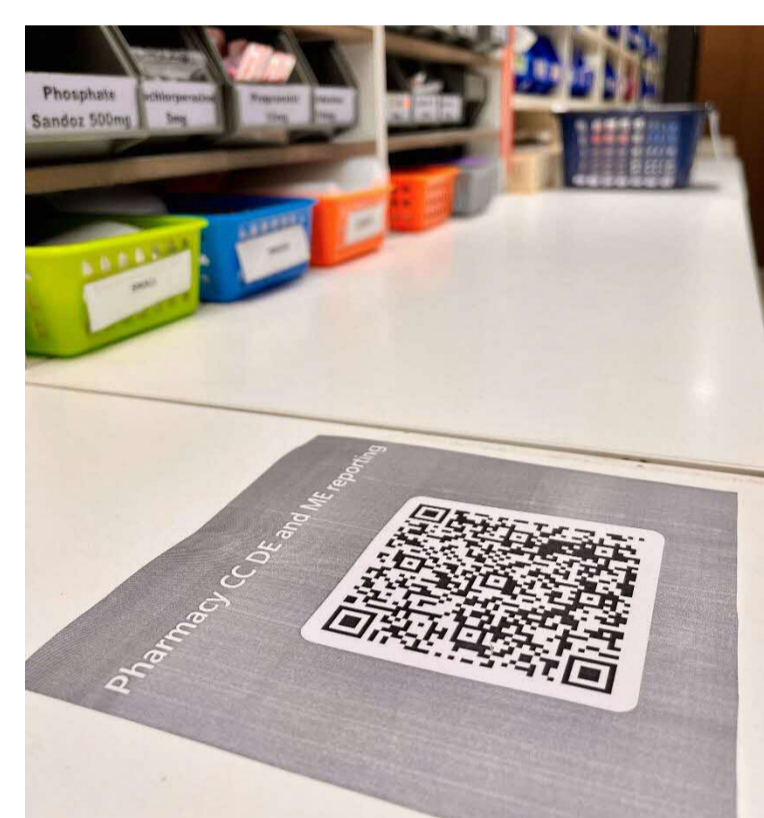

Fig 4: Picture showing placement of QR code with link to Microsoft forms for recording of CC and DE
- Monthly and year-to-date statistics were computed using preset excel formulas and presented as charts (Fig. 4).